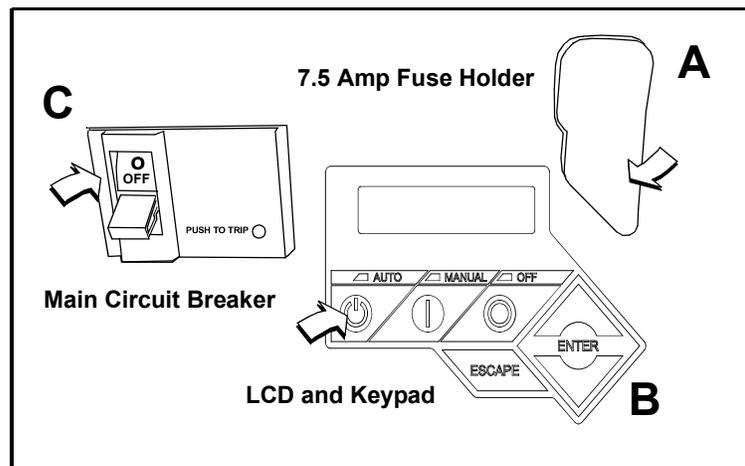

Figure 5-20. Generator Control Panel
1. Pull up rubber flap covering fuse holder and install 7.5 amp fuse. See A of Figure 5-20.
3. Press the AUTO key on the control panel keypad. The green LED above the key illuminates to confirm that the system is in the AUTO mode. See B of Figure 5-20.
4. Move the Main Circuit Breaker switch up to the ON (Closed) position. See C of Figure 5-20.